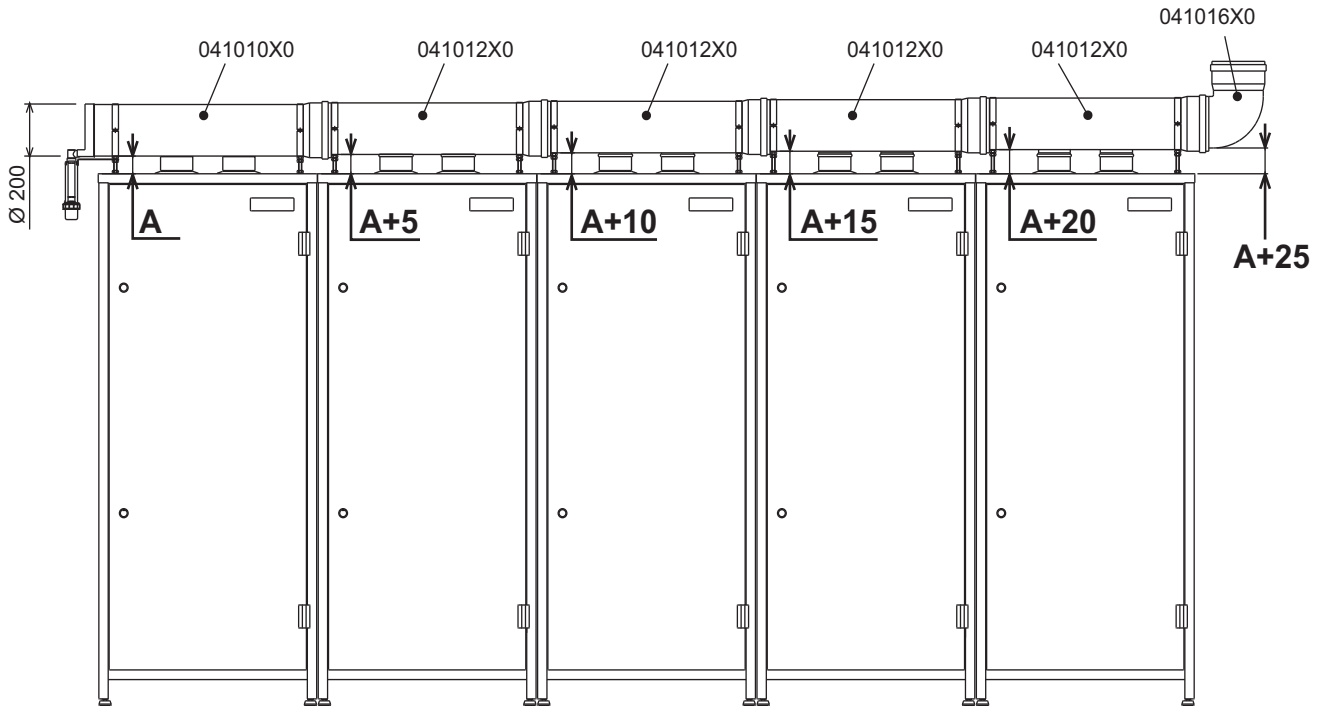
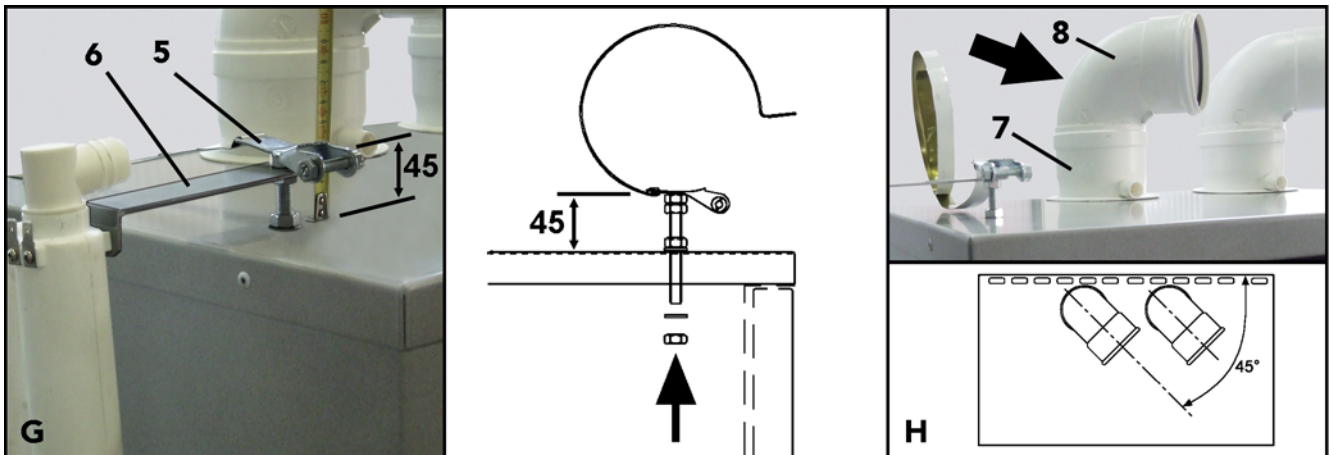
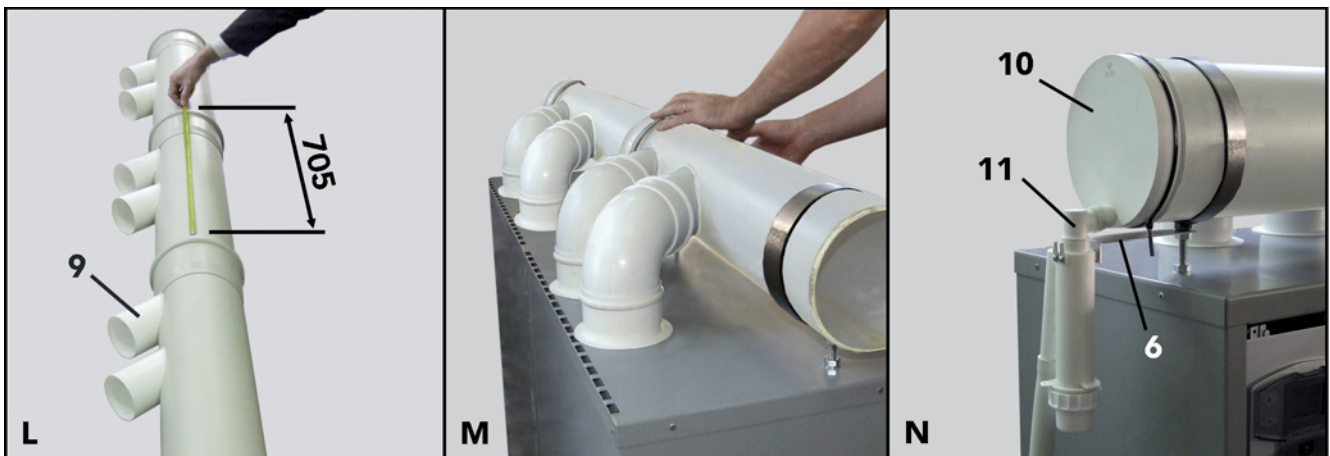

fig. 32 - Installation of 5 modules
fig. 35
fig. 36
- G** Fit the manifold support flanges “5” using the special holes provided on the top of the modules. The starting bracket on the first module must respect the distance of 45 mm. (see box “G” fig. 35). This distance must be increased by 5 at a time in the following modules, in order to obtain the fume manifold angle as indicated in fig. 32. Fit the condensate trap “6” support bracket on the **flange** of the first module.
- H** Insert the 90° M-F bends “8” on the pipe sections “7”, positioning them at 45° with respect to the module (see box “H” fig. 35). When installing a module **Reply 51/i** use only one 90° bend and the cap contained in the starting kit.
- L** Fit the flue pipes together (operation to be carried out on the ground) , ensuring the alignment of the various connections “9” and respecting the coupling measurement of 705 mm (see box “L” fig. 36).
- Check the correct angle of the manifold (see fig. 32) and the correct fitting of all the pipe sections, bends and valves, making sure the seals are properly fitted (see box “M” fig. 36). Make the external seals adhere to the top of the modules. Tighten and fix the support flanges.